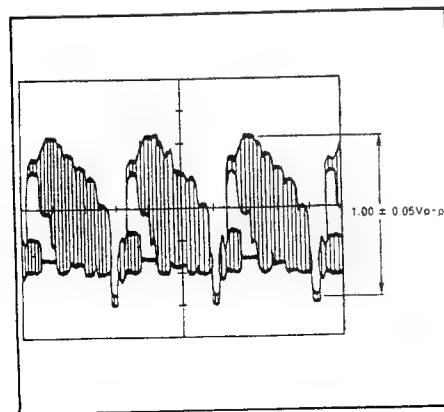

Fig. II-88 20 μ sec/0.2 V
- (1) Connect the pin 4 of IC802 (Audio P.C.B.) to ground via a resistor of 10 Kohms.
- (2) Playback the alignment tape.
- (3) Observe the waveform at pin 4 of Audio P.C.B. while monitoring the playback sound.
- (4) If the waveform is not clear (doubled, etc.) and/or there is a noise in playback sound, adjust the VR801 to make the waveform as shown in the Fig. II-88.